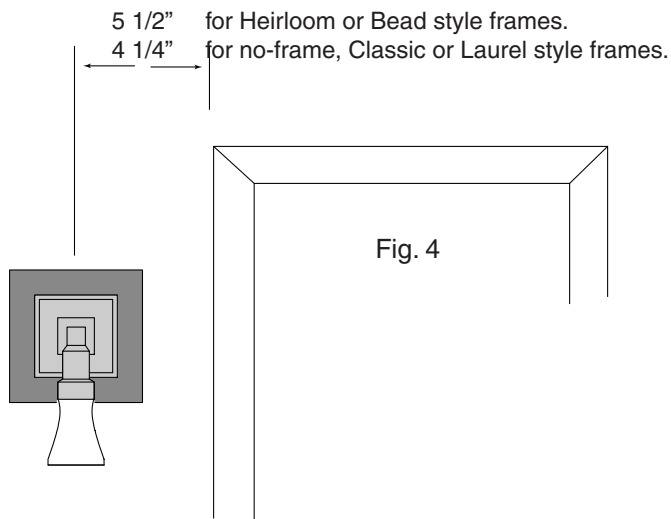

Fig. 4
2. To install sconce next to your cabinet use a minimum of 5 1/2" from the side of your cabinet to the center of the sconce, for Heirloom, or Bead style frames. Use 4 1/4" for no-frame or Classic and Laurel style frames. See Fig. 4